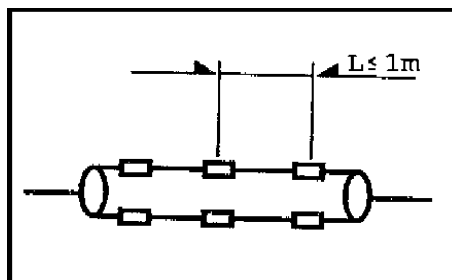

Figure 4
- Mounting clips, suction cup should be evenly spaced and both be a maximum of 1M apart.( Figure 4)